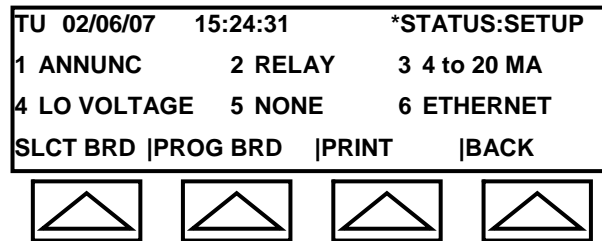

Fig. 4-15a: System Interface Boards
The screen will appear as in Figure 4-15a.
1. Starting with the System Interface Boards Screen (see Figure 4-15a) Select SLCT BRD to move the cursor until it rest on the desired board. (For this illustration, we choose Slot #2 – the relay board).
1. Starting in the System Interface Boards Screen (see Figure 4-15a), select SLCT BRD to position the cursor on **4 to 20MA**.